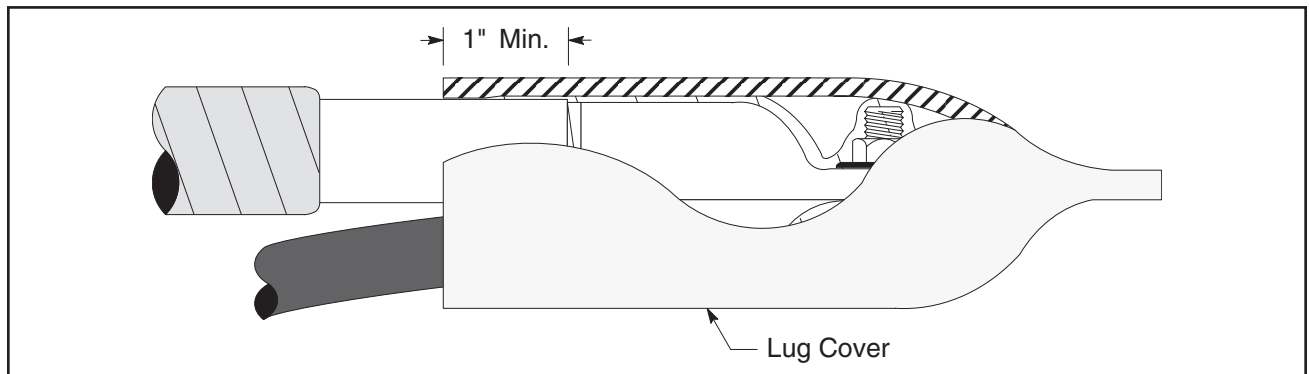

Figure 13
8.1 Install Lug Cover (Figure 13).